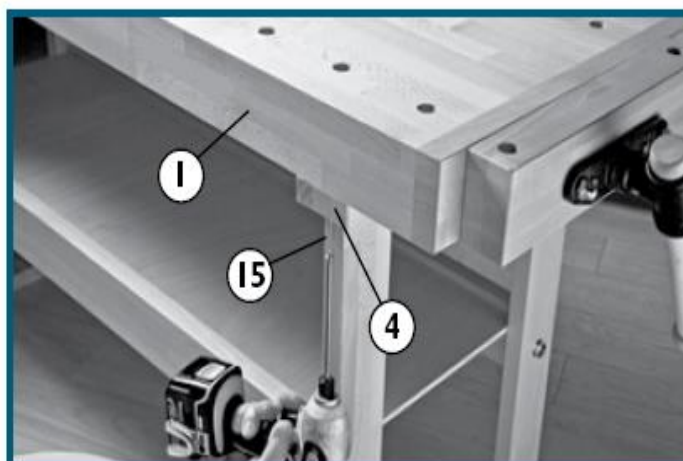

Fig. 5
5. Place the Bench Top (1) so it rests in place on the two leg assemblies. Attach to the Top Rail Supports (4) with four Hex Head 6 x 40mm Bolts (15), one in each corner (Fig. 5).